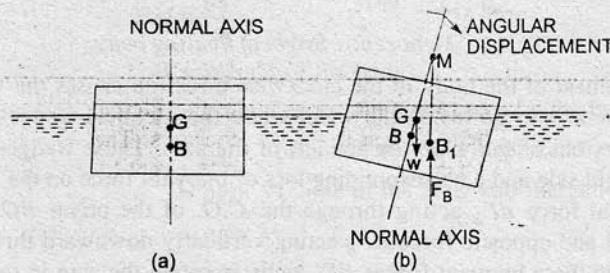

Fig. 4.5 Meta-centre
Consider a body floating in a liquid as shown in Fig. 4.5 (a). Let the body is in equilibrium and  $G$  is the centre of gravity and  $B$  the centre of buoyancy. For equilibrium, both the points lie on the normal axis, which is vertical.
Let the body is given a small angular displacement in the clockwise direction as shown in Fig. 4.5 (b). The centre of buoyancy, which is the centre of gravity of the displaced liquid or centre of gravity of the portion of the body sub-merged in liquid, will now be shifted towards right from the normal axis. Let it is at  $B_1$  as shown in Fig. 4.5 (b). The line of action of the force of buoyancy in this new position, will intersect the normal axis of the body at some point say  $M$ . This point  $M$  is called Meta-centre.
**Couple Due to Wedges.** Consider towards the right of the axis a small strip of thickness  $dx$  at a distance  $x$  from  $O$  as shown in Fig. 4.5 (b). The height of strip  $x \times \angle BOB' = x \times \theta$ .
But from Fig. 4.5 (c) it is clear that  $2 \int x^2 dA$  is the second moment of area of the plan of the body at water surface about the axis  $y-y$ . Therefore